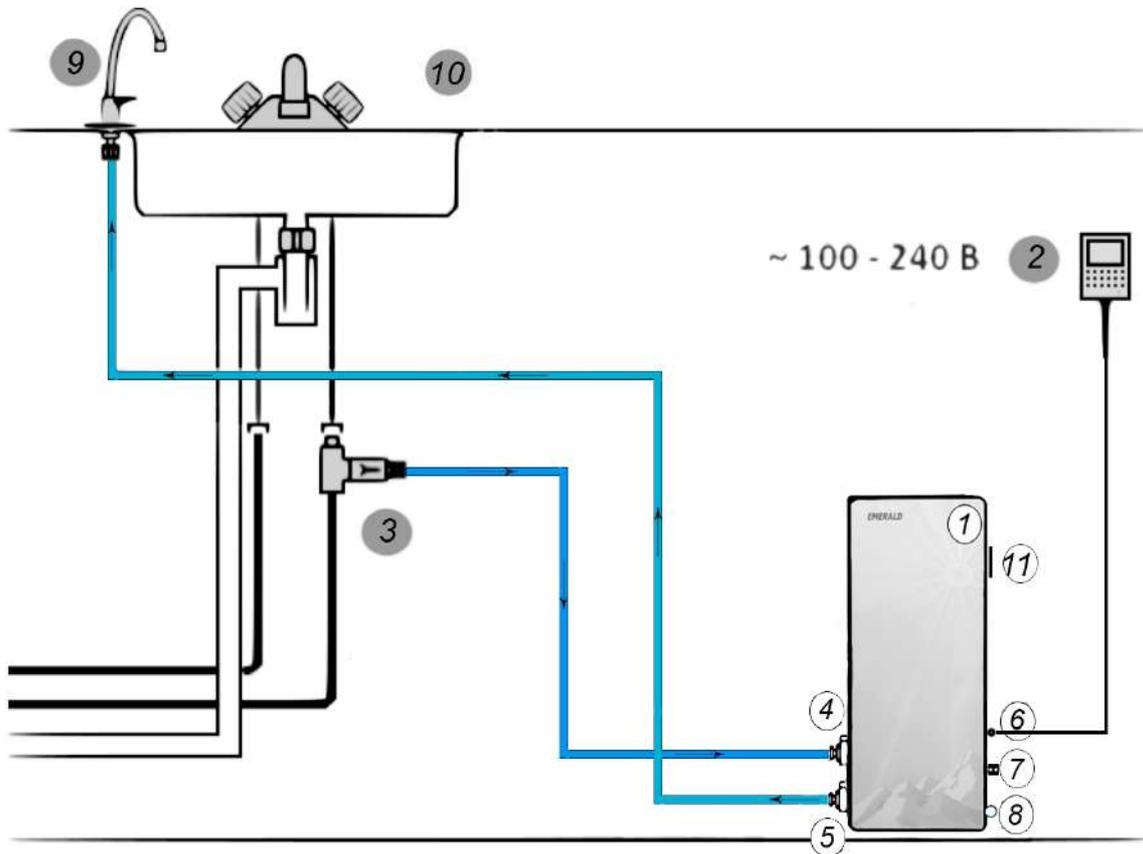

Fig. 10. Wiring diagram of the EMERALD device under the sink
The EMERALD device is located without fastening on the lower shelf of the washing cabinet (see Fig. 9), or it is attached to one of its walls with screws, for which there are special suspensions on the rear wall of the device casing. To connect the EMERALD device under the sink, you must use the connecting hoses (white tube $\frac{1}{4}$ made of food-grade plastic) and the parts included in the kit to connect the device in accordance with the diagram in (Fig. 10).
The procedure for connecting the EMERALD device (Fig. 10) consists of the following steps:
During installation, the connecting white tube that comes with the connection kit is cut into 2 parts (the length of the parts is selected on the spot). In accordance with the diagram (Fig. 10): the T-bend (3) is connected with the first tube section to the “Water inlet” fitting (4) on the side of the system; the second tube section connects the Pure Water fitting (5) on the side of the system with a clean water tap (9) installed on the sink/worktop (10).
- ◆ To turn on the device, open the shut-off valve on the pure water tap (see Fig. 10 - “9” and Fig. 19) so that cold water starts to flow into the device;